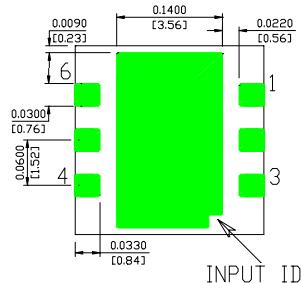

Figure 1 Bottom side (foot print) of WHM25-1525AE
Figure 1 shows the bottom side (foot print) of one product example, WHM25-1525AE 2.1 ~ 2.6 GHz low noise amplifier. The center metal area serves as the ground pad. Pin 1 is the RF input, Pin 2 and Pin 4 for +5V DC power supply. These two pins are connected internally inside the module. Pin 3 and Pin 6 are non-connection (NC). Pin 5 is the RF output.